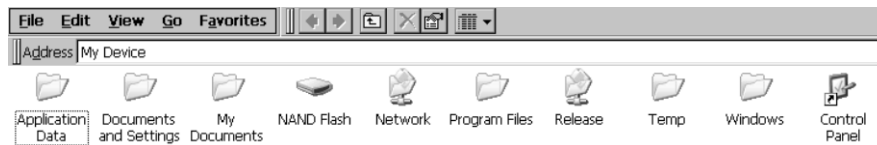

Figure 4-10 Opening Windows Explorer
2. A Windows Explorer window is displayed (Figure 4-10).